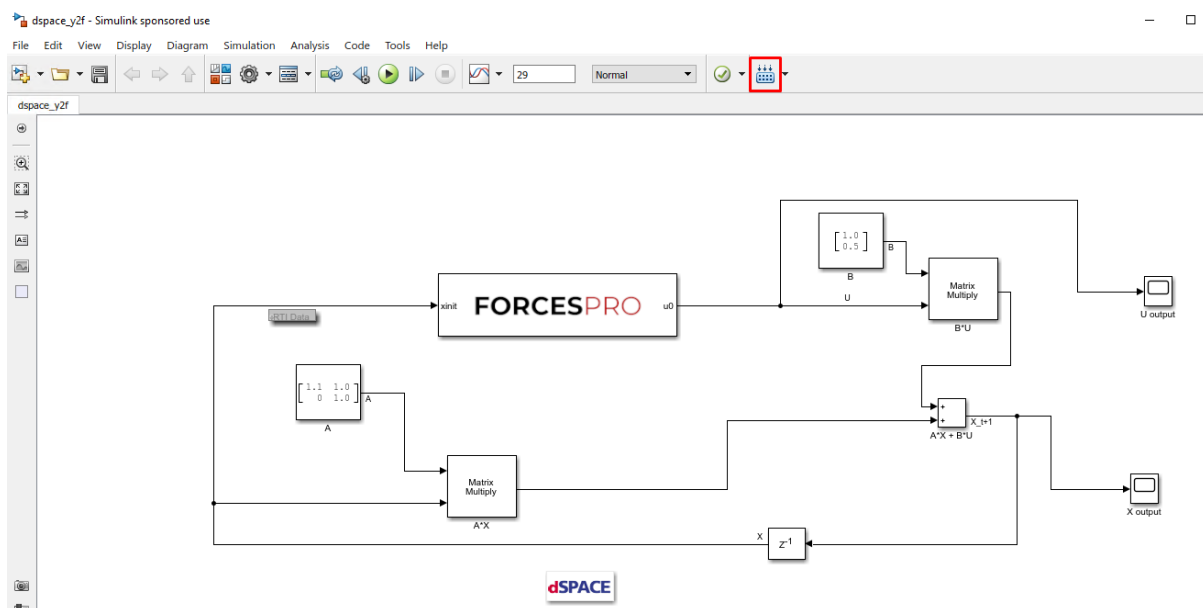

Figure 13.27: Compile the code of the Simulink model.
- (Figure 13.27) Compile the code of the Simulink model. This will also automatically load the model to the connected dSPACE platform.